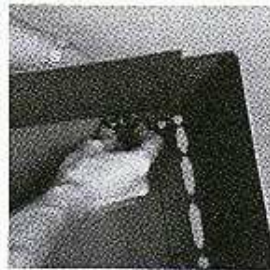
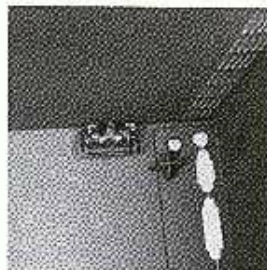

Figure 2-17
Figure 2-18
2. While holding the prongs apart, insert the spring clip under the tabs of the two outermost plastic prongs. (See Figure 2-17) Remove the tool from the slot. You should end up with the clip positioned in the slot as shown in Figure 2-18.